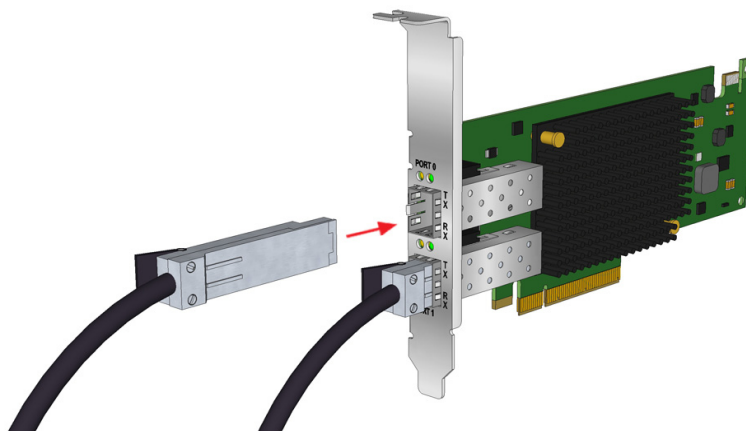
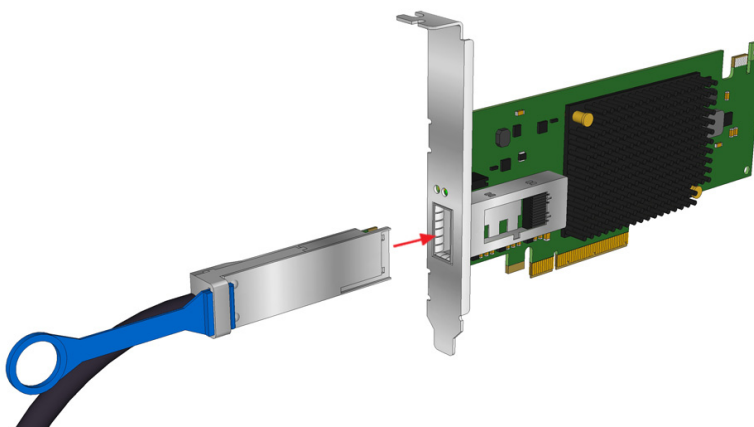

Figure 3-1 Connecting a DAC Cable to the OCe14100B-series -NX/-UX Adapters
Figure 3-2 Connecting a DAC Cable to the OCe14100B-series -NX/-UX Adapters
2. After confirming that there are no optical transceivers installed, insert the DAC or AOC transceiver into the SFP+ cage on the OCe14100B-series adapter as shown in Figure 3-1 or the OCe14400B-series adapter as shown in Figure 3-2.